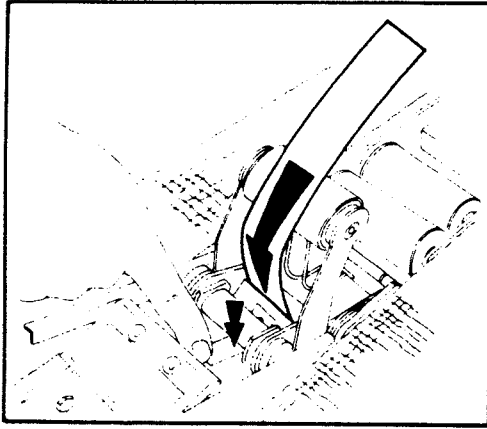

FIGURE 15A
- 2) For subsequent tape loading operations, use the red plastic threading needle and follow the loading procedures from figure 15A to complete the tape loading.
Figure 15A - Bottom taping head is threaded in same manner as top taping head, except, insert red plastic needle from top downward between one-way roller and anti-back-up spring. Pivot spring away from roller by lightly pushing on lever as designated by arrow.